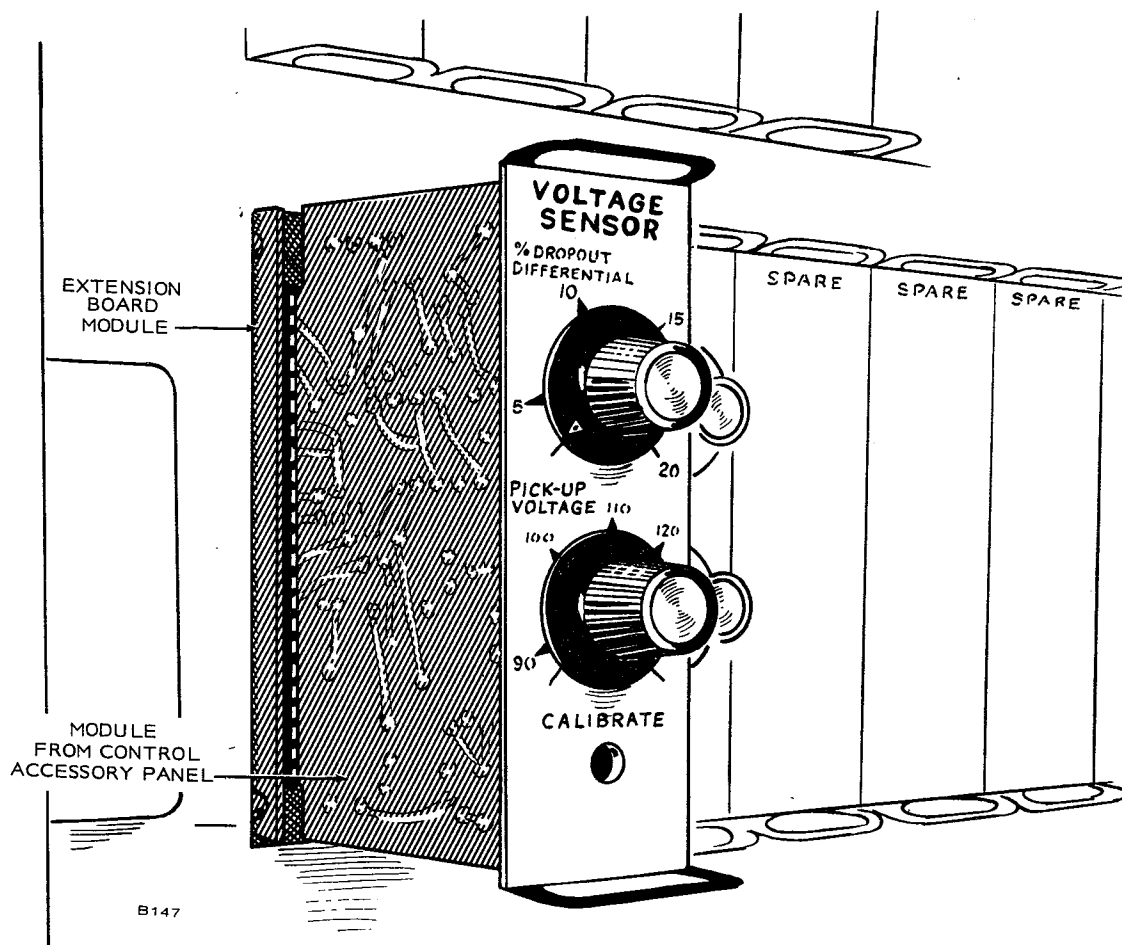

FIGURE 21. EXTENSION BOARD MODULE IN CONTROL ACCESSORY PANEL
8. Insert module removed in Step 5 into the back of the extension module (Figure 21).